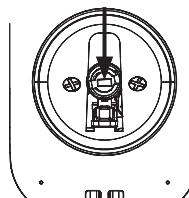

Figure 7A
- Install inside escutcheon on inside mounting plate. Note in Fig. 7A the horizontal orientation of the tail piece as you insert the inside escutcheon (thumb turn should be vertical).
- Install and secure using (3) M4 x 8mm [8-32 x 5/16"] pan head screws through the inside escutcheon into the mounting plate.